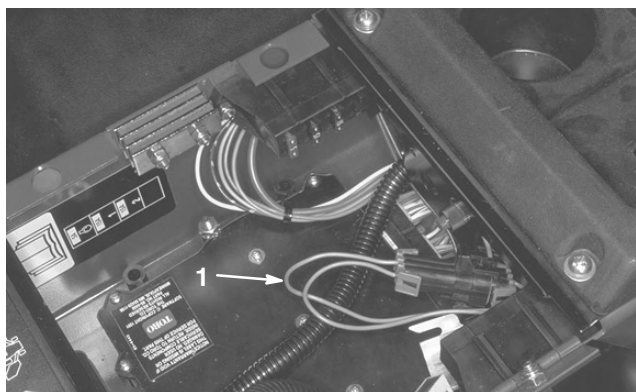

Figure 31
2. Open control panel cover. Locate wire harness and connectors near controller. Carefully unplug loop back connector from harness connector (Fig. 31).